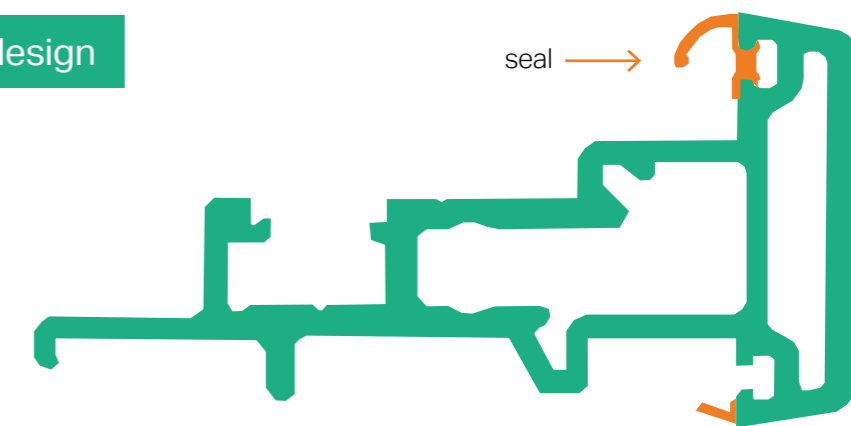

Fig. 6 Comparison of the original PVC window profile design and the pultrusion redesign
2. The PVC window profile design was converted into a PU pultrusion profile design, which involved reducing profile complexity while maintaining all functional areas, adjusting the wall thicknesses, eliminating the steel reinforcement, and optimizing the fiber distribution (Fig. 6).